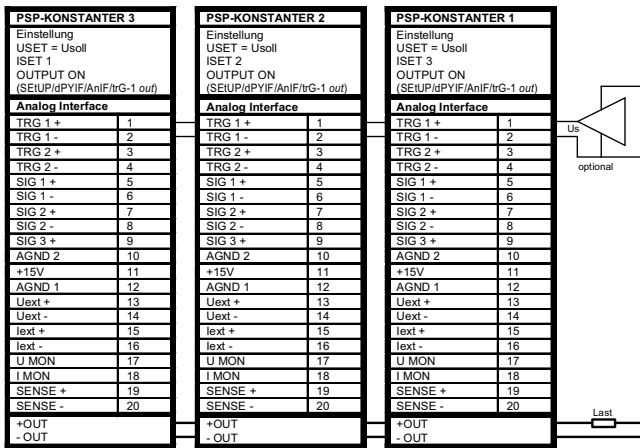

Figure 7.9.1a Wiring for Direct Parallel Connection
- The outputs can be activated and deactivated commonly by connecting the trigger inputs in parallel (see figure 7.9.1a, optional connection) or series (setting: "SEUP/dPYIF/AnIF/trG-1 out").